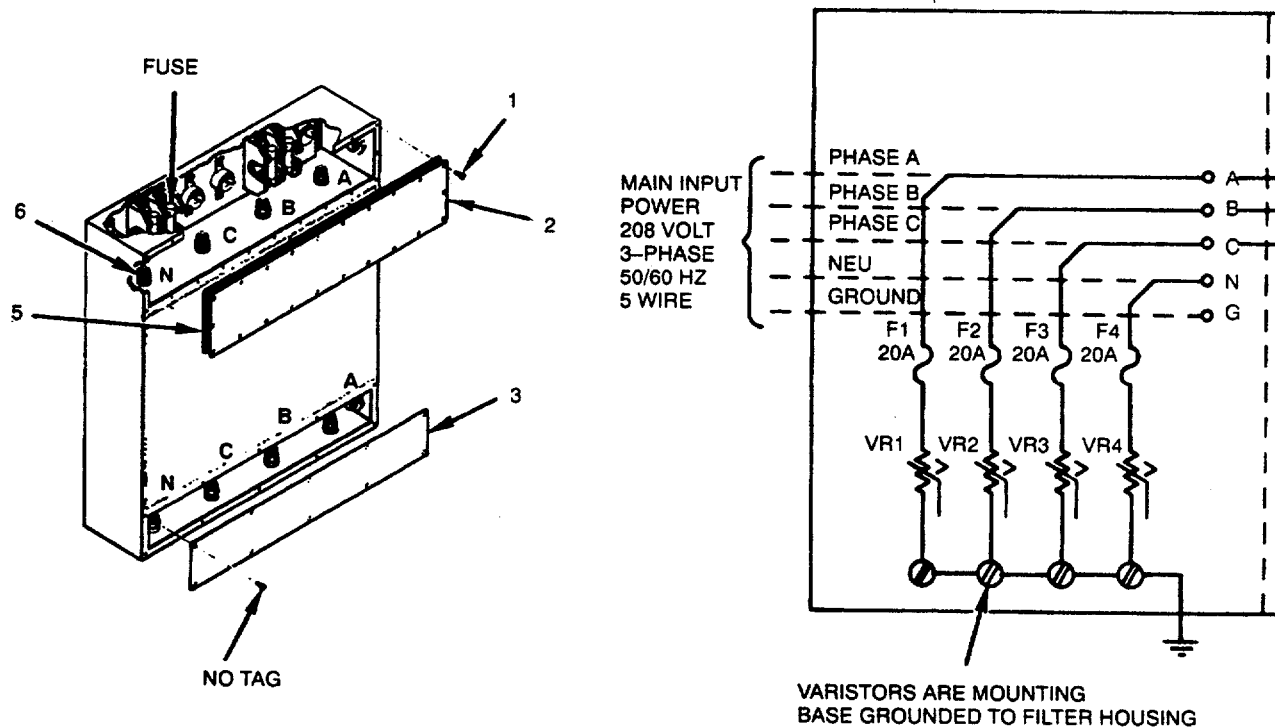

Figure 4-45. RFI Filter
3. Remove 22 screws (1) and top cover (2) (see Figure 4-45).
4. Remove 10 screws (NO TAG) and bottom cover (3).